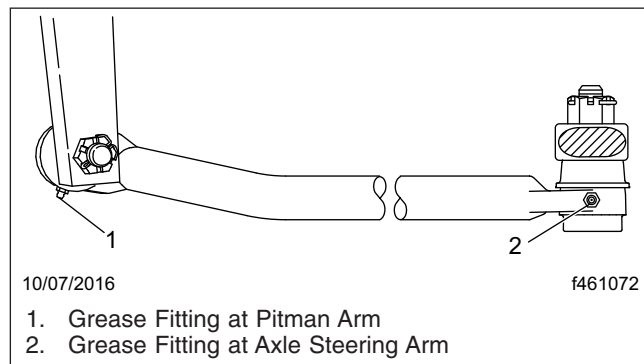

Fig. 2, Drag Link
2. Using a clean rag, wipe all dirt from the drag link grease fittings. See Fig. 2.